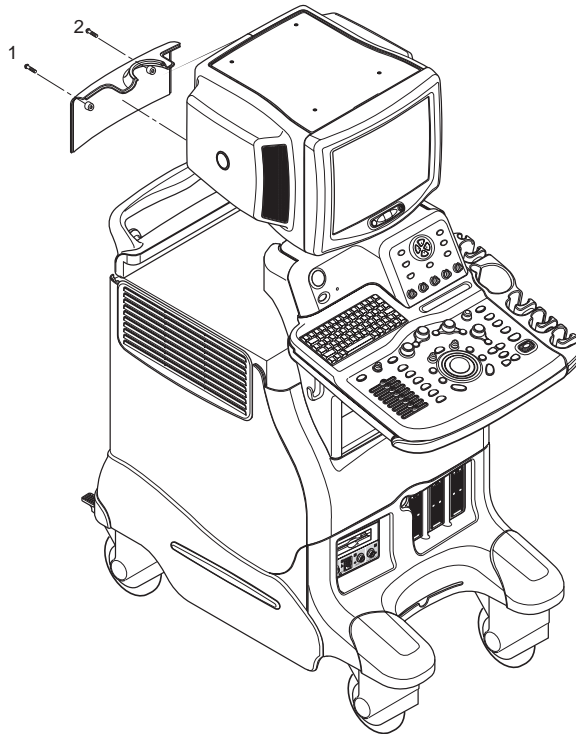

Figure 8-57 Removing OP Rear Cover
- 2.) Remove OP Rear Cover. Refer to Figure 8-57.